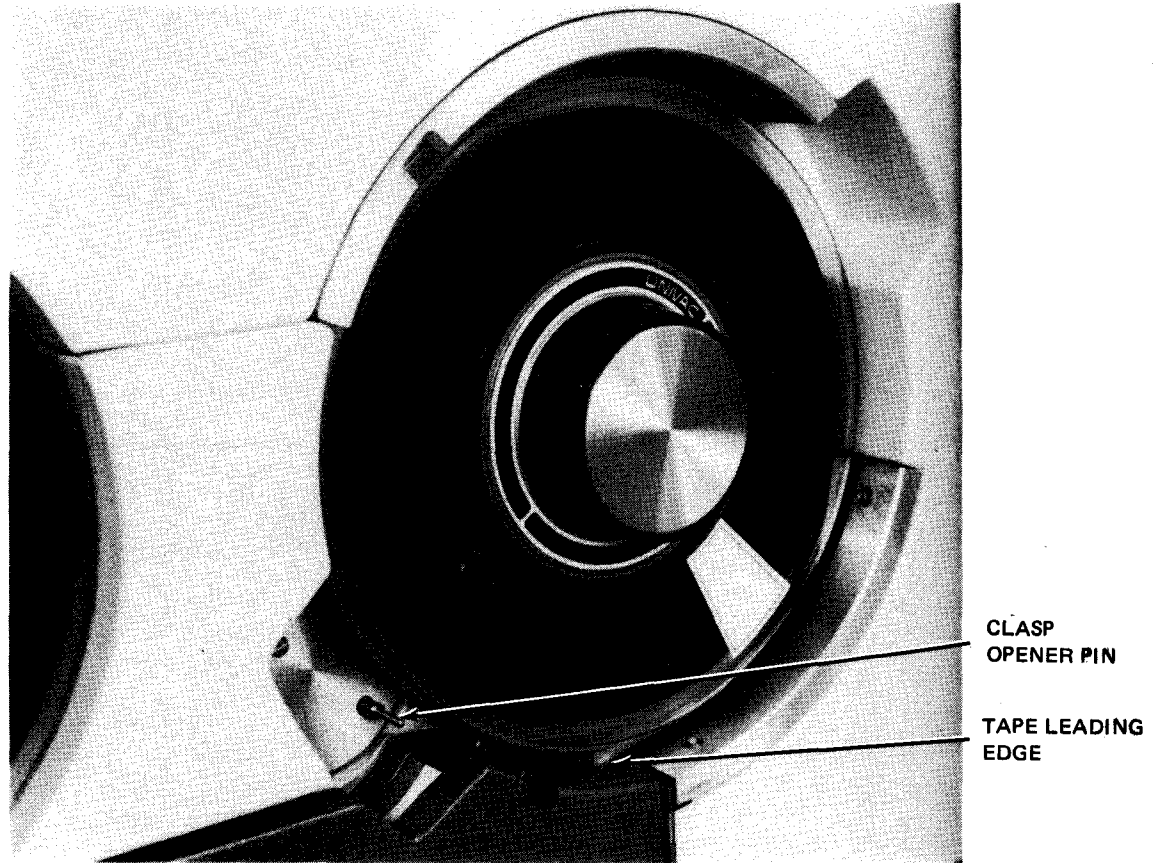

Figure 4-50. Tape End Positioned for Automatic Loading Without Tape Reel Cartridge
*The cartridge clasp is automatically opened by the clasp opener pin (Figure 4-50) when the **LOAD POINT** switch is pressed.*
- Mount reel on supply hub so that leading edge of tape is approximately one inch from 180-degree point of reel socket (Figure 4-50).